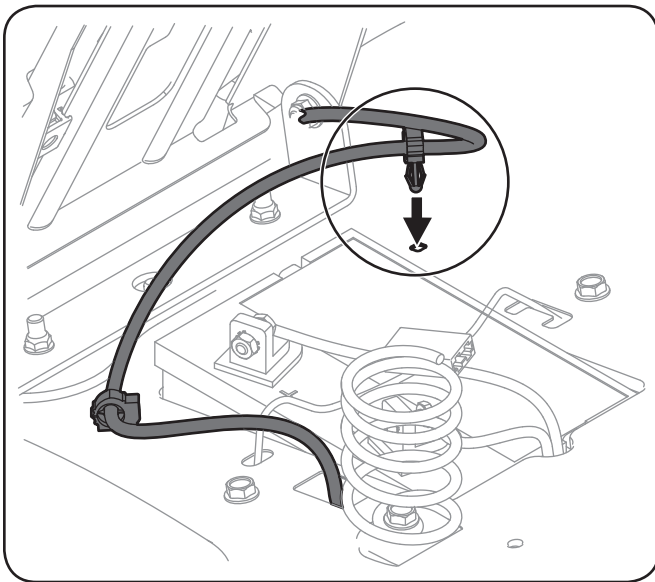

Figure 3-4
4. Using the harness clip attached to the harness, secure the excess wire to the fender by snapping the harness clip in place as shown in Figure 3-4.